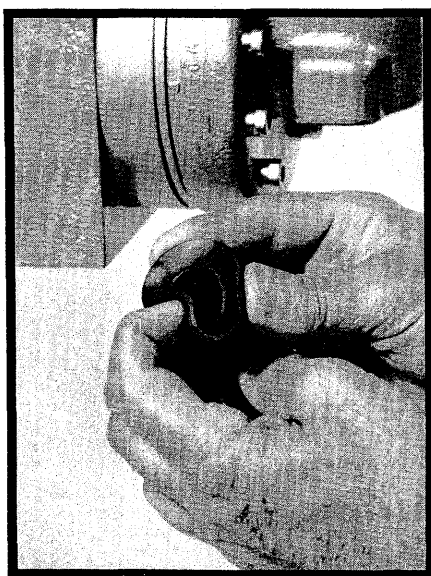

FIGURE 8.
3. Fold a point on the edge of the HYDRATUBE flange upward (Figure 8). Push the edge down the throat of the tube. Fold the sides of the flange inward (Figure 9) to form a compact 45° "nose" and wrap tightly with a rubber band (Figure 10). This wrapped nose should be reasonably compact and secure.